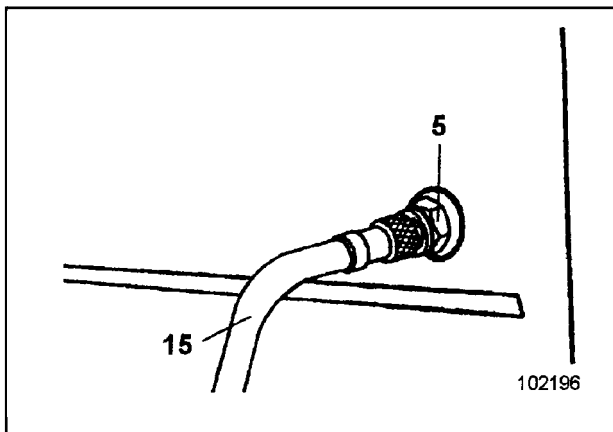
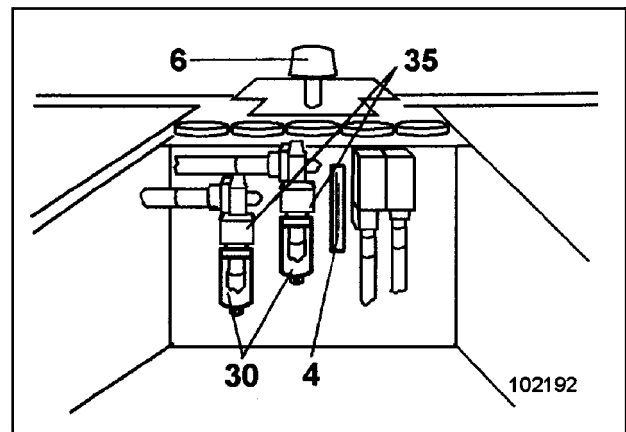

Fig. 16
Fig. 17
- Position the machine with a slight inclination towards the drain valve (5, Fig. 16). The drain valve is located at the back of the hydraulic oil reservoir and accessible from the bottom.
- Place a suitable recipient under the drain valve of the hydraulic oil reservoir (5). Choose the required capacity of the recipient in accordance with the "Refilling quantities - Oil" table.
- Connect hose (15) to drain valve (5) and drain off used oil completely. Draining is facilitated if the breather filter (6, Fig. 17) is removed during the process. The use of the oil draining hose is described in the "Draining hose for oil changes" section. When the machine is in operation, the hose (15, Fig. 16) must be stowed away in the tool box.